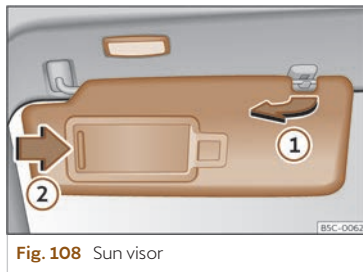

Fig. 108 Sun visor
- The sun visor can be pulled out of its mounting and turned towards the door >>> **Fig. 108 ①**.